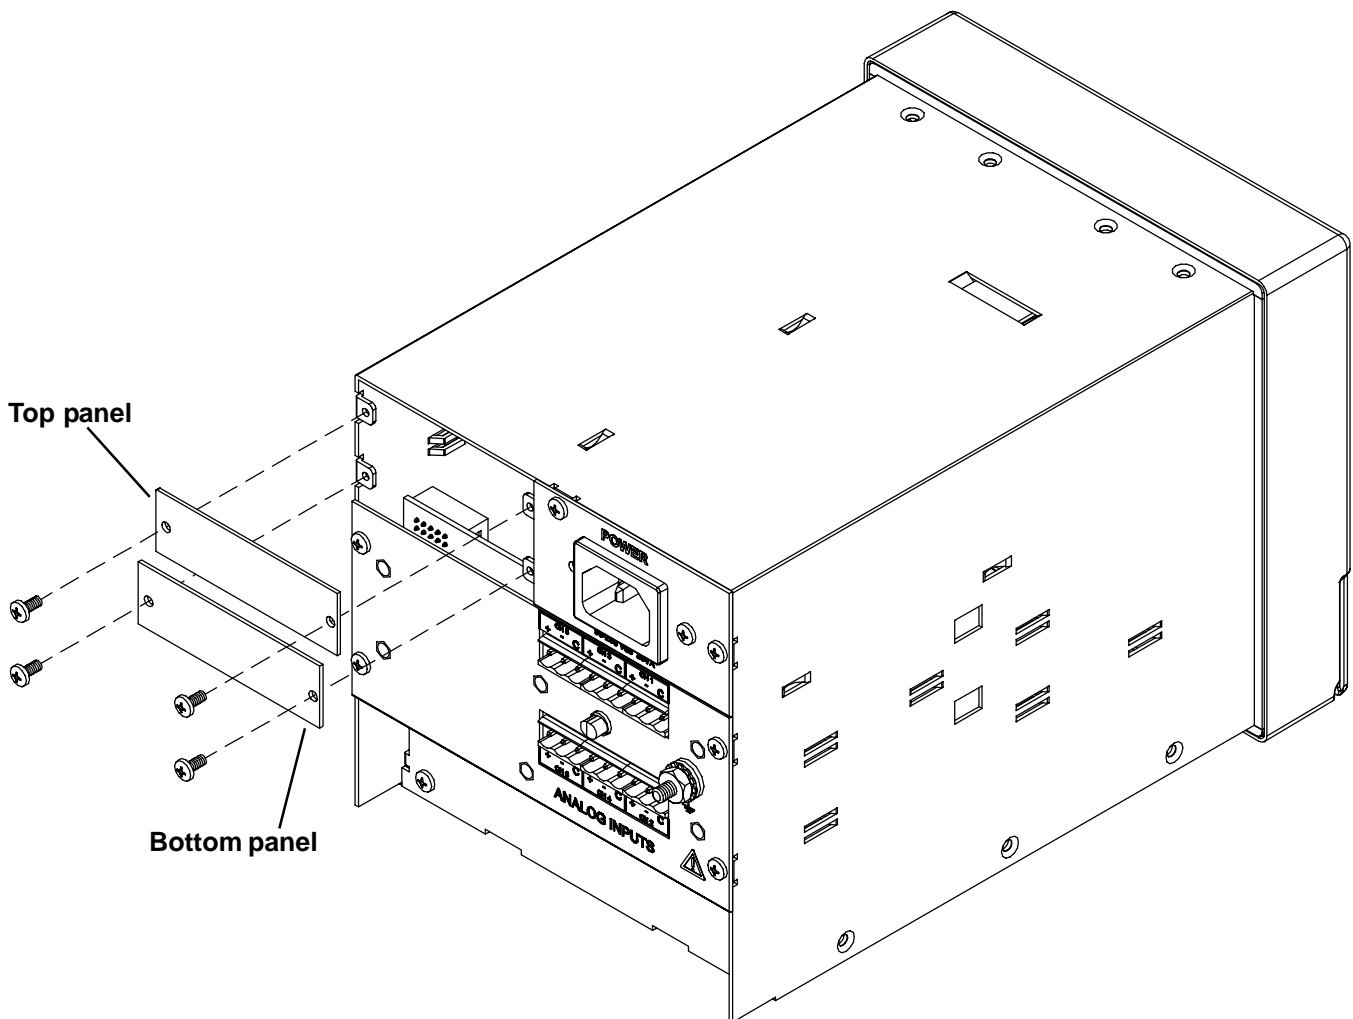

Figure 1 Blanking Panel Location
1. From the back of the unit, remove the top and bottom blanking panels (see Figure 1) and set aside.